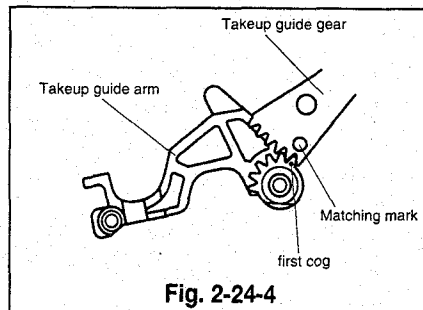

Fig. 2-24-4
- ④ Install the takeup guide gear so that the first cog of the takeup guide arm aligns with the matching mark on the takeup guide gear as shown in Fig. 2-24-4.